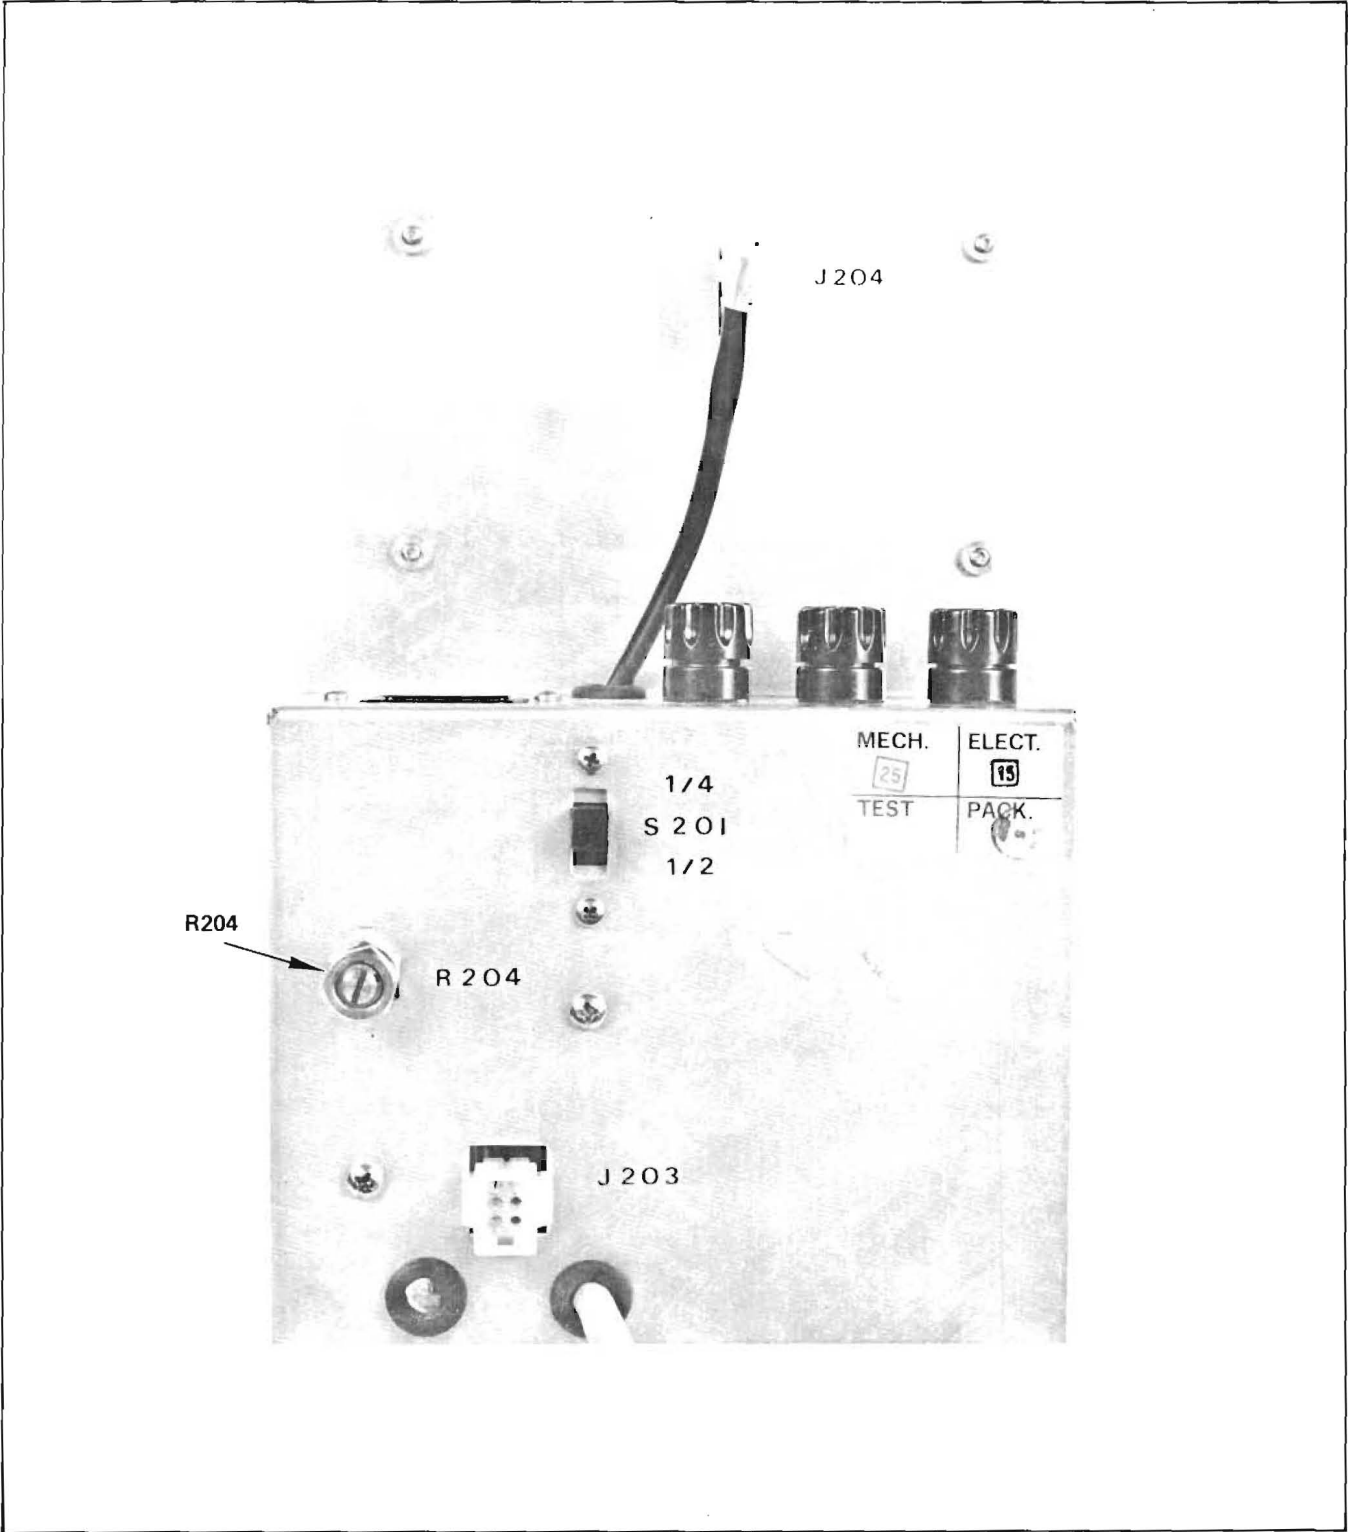

Figure 7-7. Power Supply
- C. Loosen the locknut on resistor R204 on the power supply, Figure 7-7. Turn R204 for a minimum resistance (fully ccw). Hold a piece of black paper in the slot of the opto coupler. Put the machine in Play mode and observe the VOM. It should indicate 85 ± 5 volts rms.